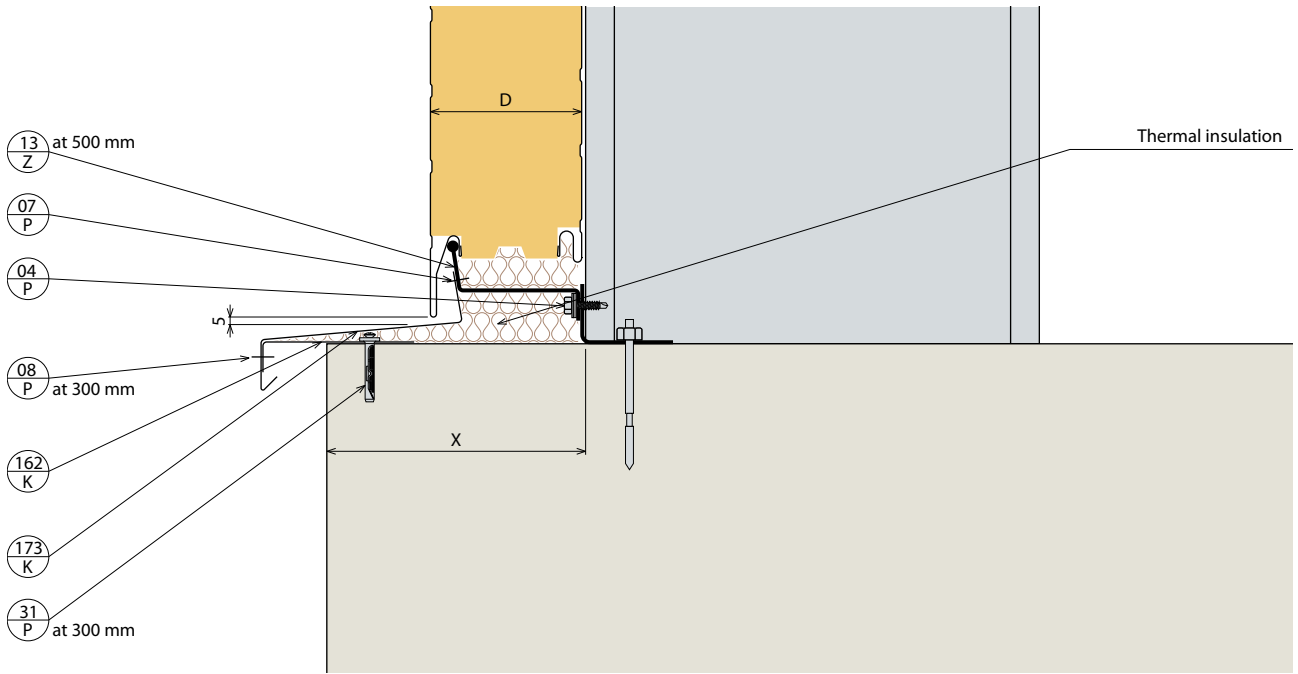

Fig. 55: Detail D30.11. – Horizontally laid RH/FH panel on a plinth
- We recommend that the bottom horizontally-laid panels be fastened onto a plinth profile (Z 13) that is attached to a concrete curb by every 500 mm or so. (see Fig. 55 and 56).